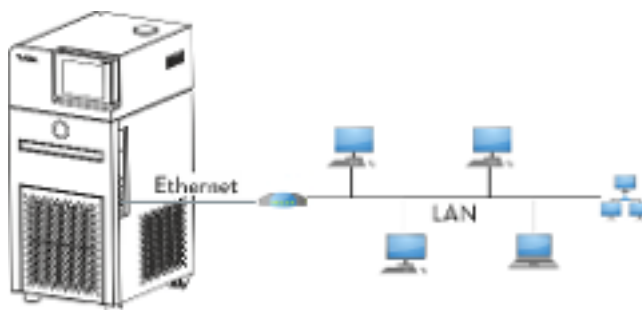
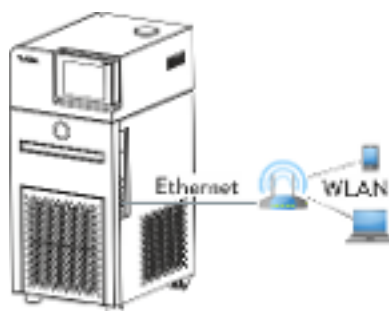

Fig. 15: Connected via LAN
Fig. 17: Connected via WLAN
Fig. 15 illustrates how the constant temperature equipment is connected to a control station/PC via a LAN network.
Fig. 17 illustrates direct communication between the control station/PC and the LAUDA constant temperature equipment via a WLAN. The WLAN router must be configured as an access point. Refer to the instructions accompanying the router for information on configuring the WLAN router.
- Commercially available WLAN routers can be used for the connections displayed in Fig. 16 and Fig. 17. The routers must have the necessary connection function and meet the requirements in the relevant country in which they are operated. However LAUDA recommends using an industrial WLAN router for the configuration illustrated in Fig. 16.
17. Connect the Ethernet interface on the constant temperature equipment as illustrated in Fig. 15 to Fig. 17. Use a commercially available Ethernet cable (patch cable).
8. Connect the Ethernet interface on the constant temperature equipment as illustrated in Fig. 15 to Fig. 17. Use a commercially available Ethernet cable (patch cable).